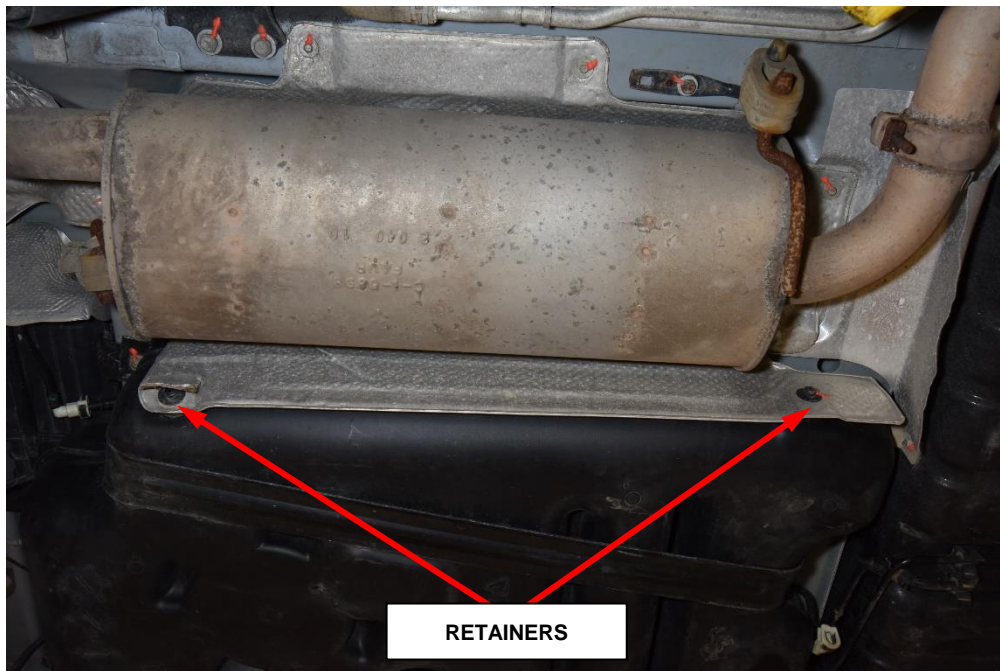

Figure 8 – Exhaust Heat Shield
41. Remove the exhaust heat shield retainers from the fuel tank (Figure 8).